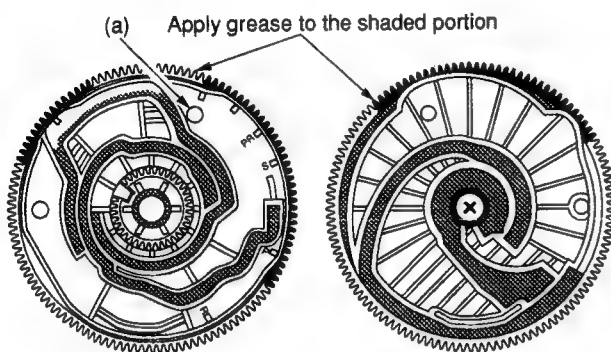

Fig. 6-31-1
6. Apply grease on a new cam gear on the shaded portion as shown in Fig. 6-31-1 and the shaft of the main base.
8. Push the cam lever (1) and the pin (2) (loading slider) in the direction shown by the arrows (A) and (B).
9. Mount the cam gear at the angle which the small hole (a) on the cam gear aligns with the hole on the mechanical deck. (Refer to Fig. 6-31-1.)